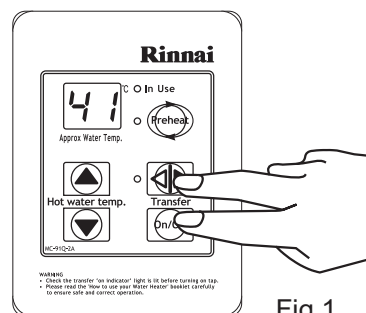

Fig 1.
2. Drill 3 holes in the wall, as shown in fig.1, one for the cable and two for the securing screws. Ensure holes are drilled. Fit wall plugs if required.
2. Remove the front cover from the appliance (4 screws) (fig.1).
For the controller in the KITCHEN only, press and hold the 'Transfer' and 'On / Off' buttons simultaneously (see Fig 1.) until a 'beep' is heard (approximately 5 seconds).